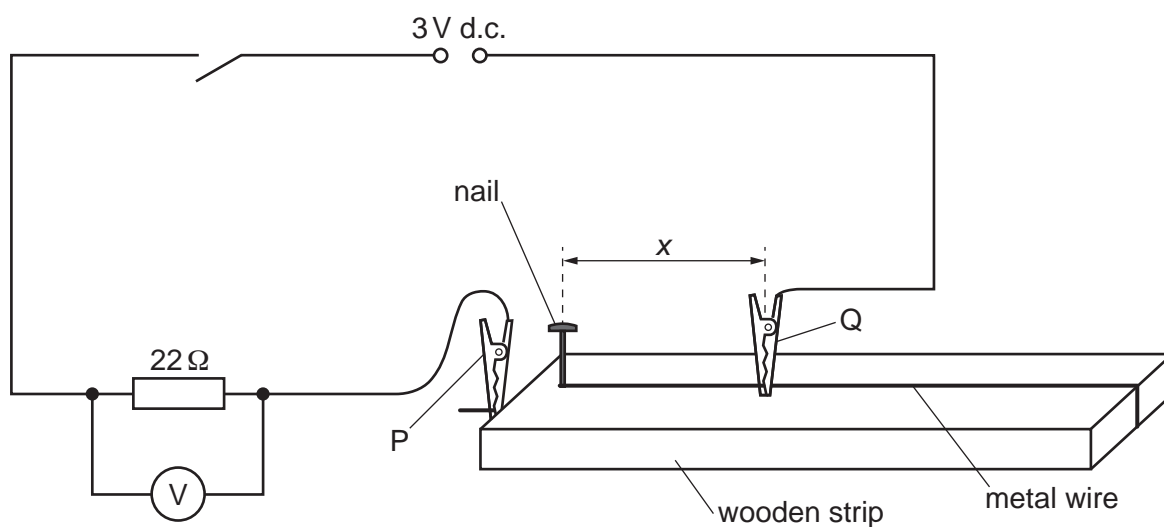

Fig. 1.2 (not to scale)
- Set up the circuit shown in Fig. 1.2.
The distance between the nail and Q is x , as shown in Fig. 1.2.